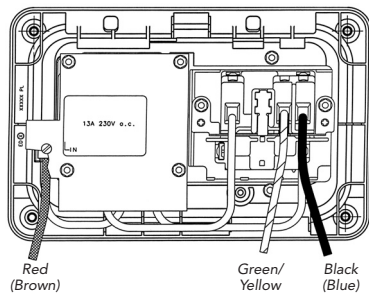

Figure 1
Please refer to figure 1 for terminal layout and wiring arrangement.
- The conductors should now be connected to the respective terminals as described and shown in figure 1. Take care to select the cable with the appropriate sleeve colour code for each terminal.
The first colour indicated in the following illustration (figure 1) will be that used prior to April 2004. The second colour, shown in brackets, is the colour used after April 2004.